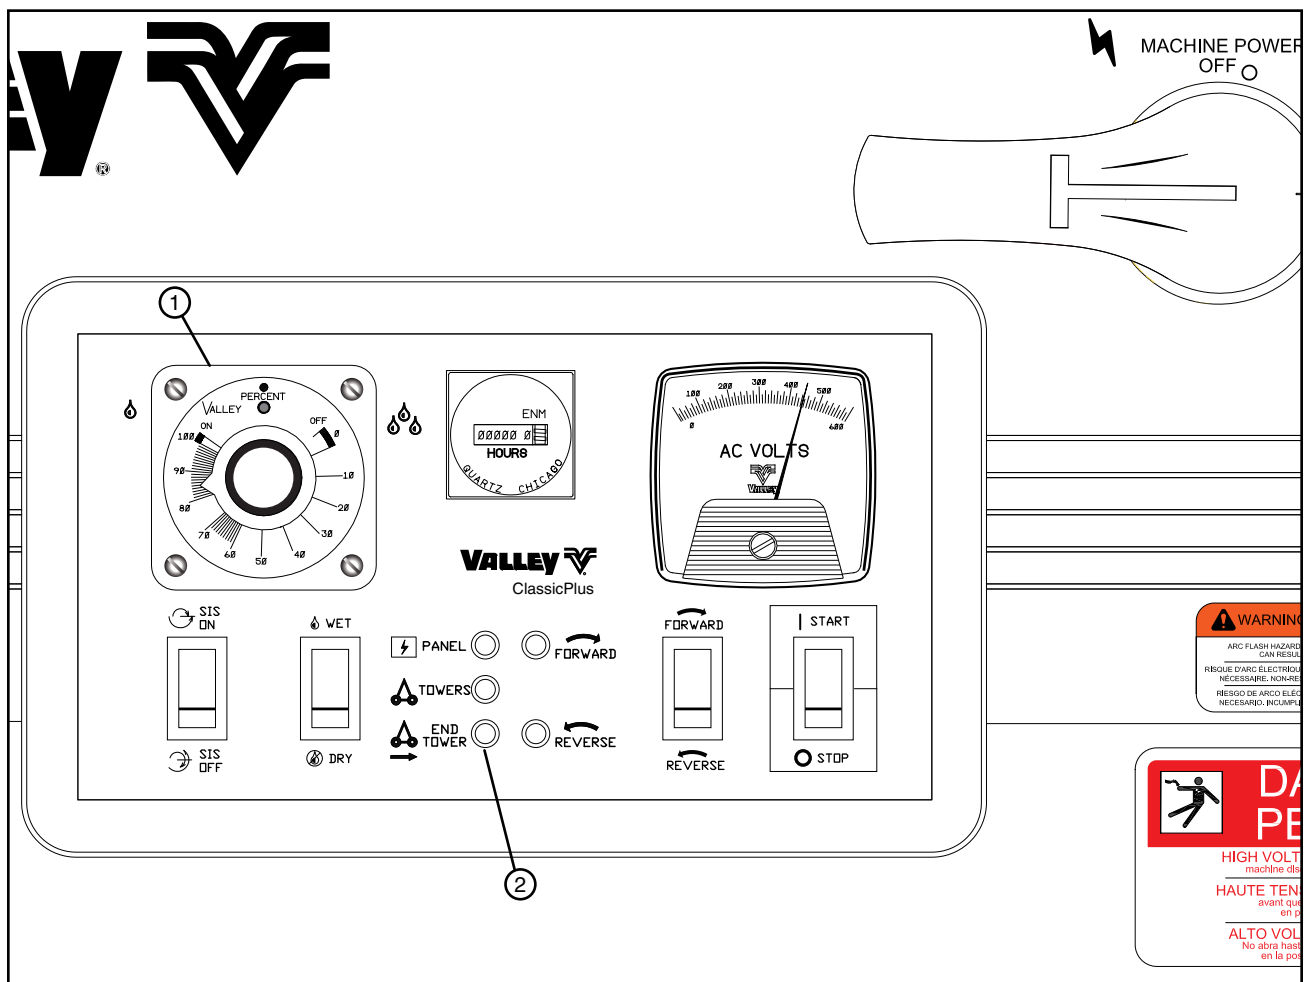

Figure 31-1 1. Percent Timer
1. Set the percent timer to 20% on the dial. See Figure 31-1.
3. Watch the End Tower indicator light for several complete cycles (ON/OFF) of the timer to insure you catch a complete timer cycle. See Figure 31-1.